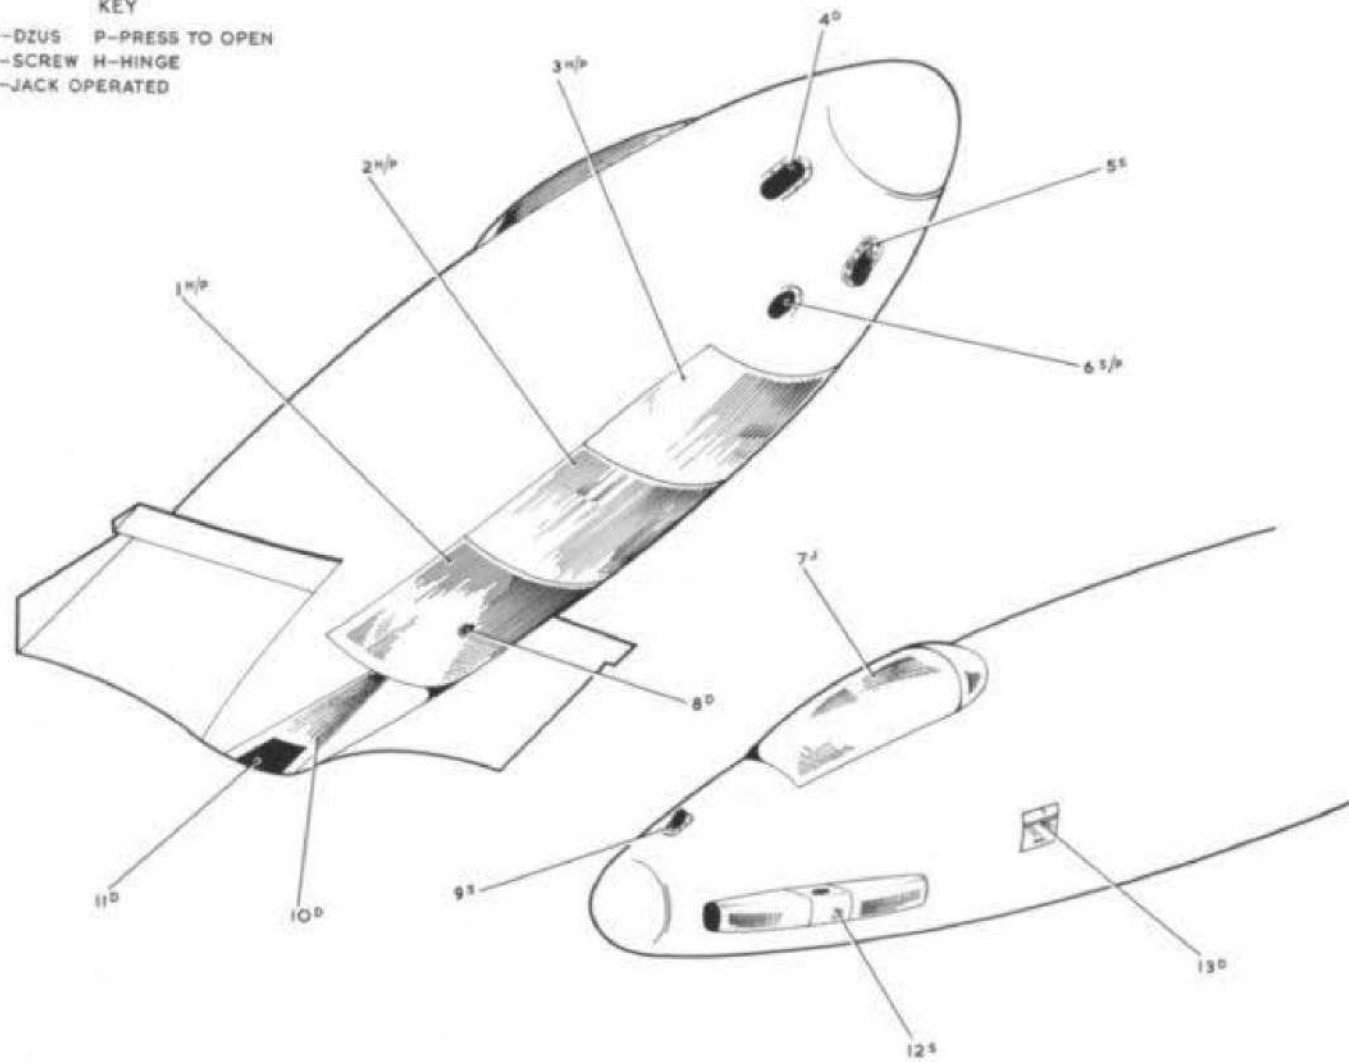

Fig. 1. Access panels.
panels are provided for access to the equipment and servicing points in the rear fuselage and the bleed air turbine situated aft of the starboard undercarriage. The positions of the doors and panels are illustrated in fig.1.
**KEY TO FIG. 1**